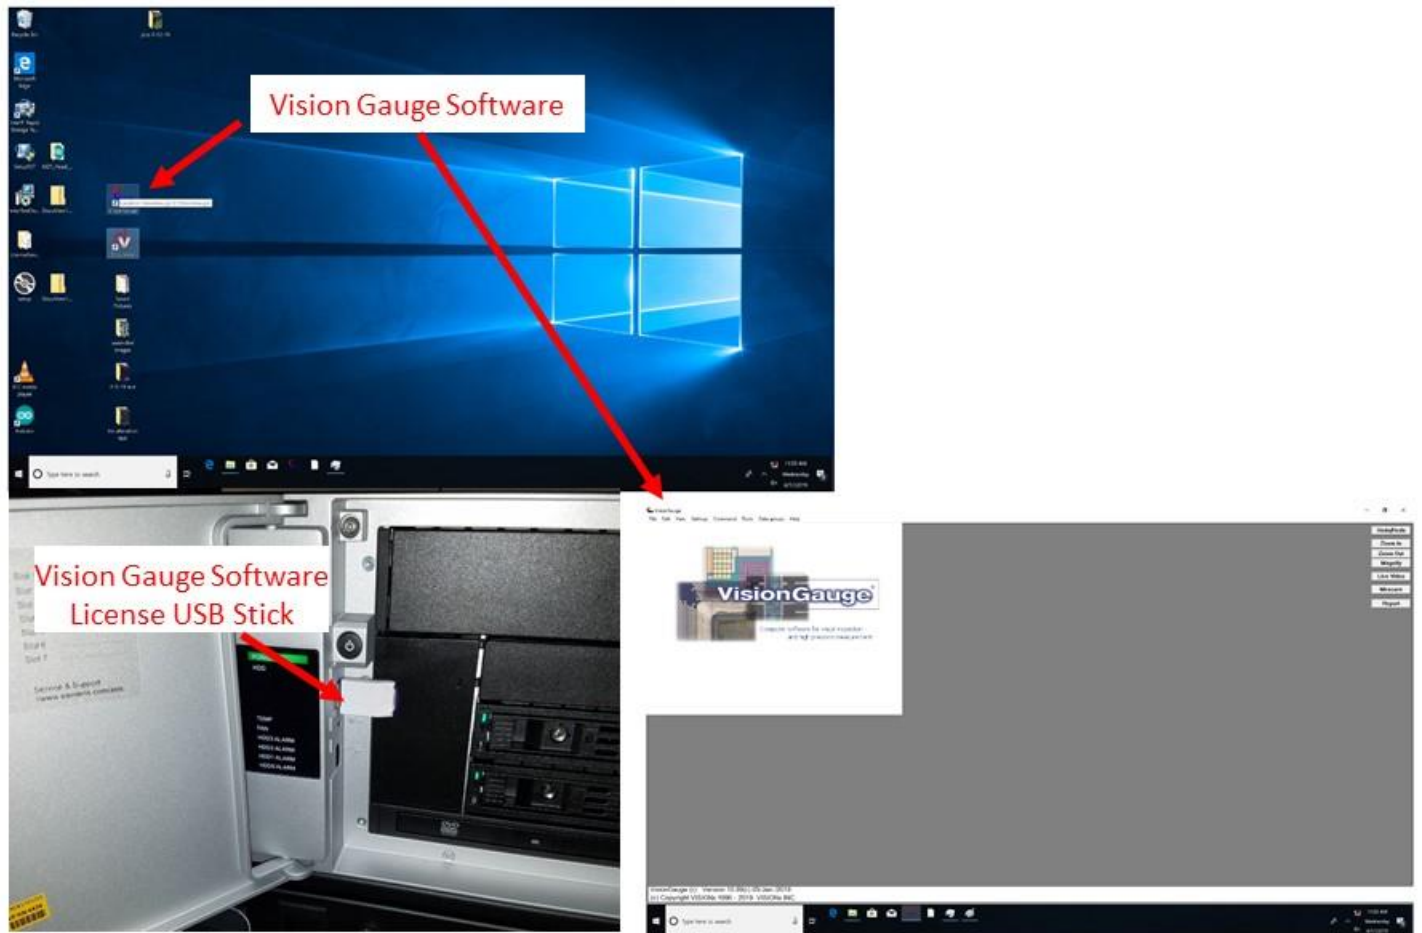

Figure 24 Vision Gauge Software Start Screen
- 10) Refer to Figure 24 Capture Controls (Admin Mode)